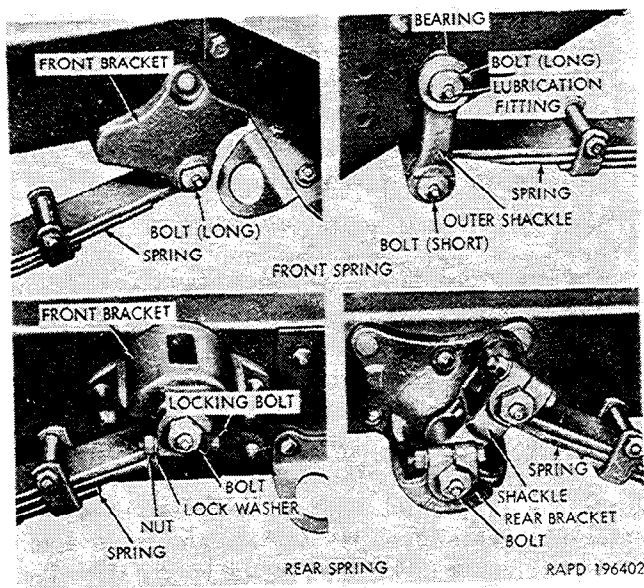
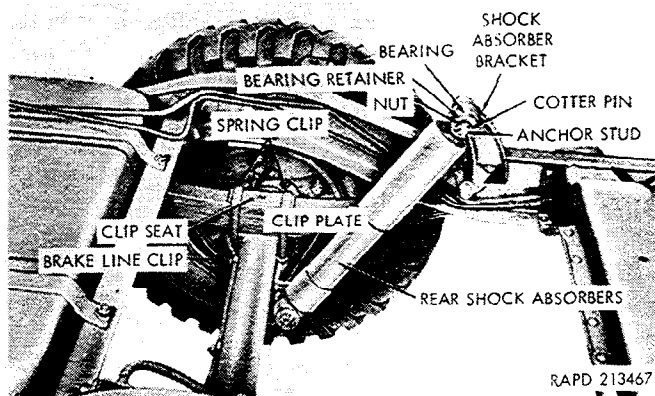

Figure 2-179. Spring bolts and shackles.
Figure 2-180. Rear spring and shock absorber.
(3) Place a jack under the frame side rail just back of the front spring shackle, and raise the frame enough to relieve the load on the spring.
(4) Remove the cotter pin and slotted nut from the spring bolt at the front bracket.
(5) Remove the lubrication fitting from the front spring bolt (fig. 2-179). Remove bolt with drift and hammer.
(6) Remove the bolt that secures the rear end of the spring to the shackles (fig. 2-179 (4) and (5) above).
(7) Support the spring clip (U bolt) plate with blocking from the underside (left side only) and remove the two spring clips (U bolts) and the axle bumper. Remove the spring.
(8) If the spring shackles or the shackle bolt require replacement, remove the shackle bolt ((4) and (5) above) and remove the shackles.
(1) Apply a film of lubricant to all spring bolts to facilitate installation.
(2) If the shackles were removed (a (8) above), position the outer shackle (fig. 2-179) over the bearing in the frame side rail with the offset down and toward the frame. Install a long shackle bolt through the shackle and the frame, with the flat side of the bolt head alined with the locking boss on the shackle. Install the inner shackle on the shackle bolt with the offset down and facing the outer shackle. Install a triple slotted nut on the bolt and tighten fingertight.
(3) Position the spring on the axle with the center bolt head in the recess in the axle housing and the front end in the front bracket (fig. 2-179). Aline the bolt opening in the spring and bracket and install a long spring bolt, with the flat side of the bolt head alined with the locking boss on the bracket. Install a triple slotted nut on the bolt and tighten fingertight.
(4) Aline the rear end of the spring between the inner and outer shackles, and install a short bolt with the flat side of the bolt head alined with the locking boss on the outer shackle. Install a triple-slotted nut on the bolt.
(5) Tighten the nuts on the spring bolt in the front bracket to 40-50 foot-pounds torque. Install a cotter pin.
(6) Tighten the nuts on the shackle bolts sufficiently to overcome end play when the spring is checked with a pry bar.
(3) Place a jack under the frame side rail just ahead of the front bracket of the spring to be removed and raise the frame enough to relieve the load on the spring.
(4) Remove the nuts, lockwashers, and locking bolts that secure the spring bolts in the front bracket and the shackle (fig. 2-179).
(5) Remove the lubrication fittings from the two spring bolts. Unscrew and remove the two bolts.
(6) Support the spring clip plate (fig. 2-180) from the underside and remove the two spring clips and the spring clip seat. Remove the spring.
(7) If the shackle (fig. 2-179) requires replacement, remove the bolt ((4) and (5) above) and remove the shackle.
(1) If the shackle was removed (a (7) above), position the shackle in the rear bracket (fig. 2-179). Install the spring bolt through the bracket and shackle, and tighten the bolt sufficiently to permit installation of the locking bolt. Install a locking bolt in the bracket, and a lockwasher and nut on the bolt.
(2) Position the spring on the axle with the center bolt head in the recess in the axle housing. Install the clip seat (fig. 2-180) over the spring and install the two spring clips (U bolt) over the spring clip (U bolt) seat, and through the holes in the clip plate, being careful not to damage the brake line.
(3) Aline the front end of the spring with the front bracket (fig. 2-179) and install the bolt. Tighten the bolt and install the locking bolt ((1) above).
(4) Aline the rear end of the spring with the spring shackle and install the bolt and locking bolt ((1) above).
(1) Remove the cotter pin, slotted nut, and bearing retainer that attach each end of the shock absorber to the anchor stud (fig. 2-180).
(2) Remove the shock absorber and the four rubber bearings from the anchor studs.
(3) If either anchor stud requires replacement, remove the cotter pin and slotted nut that secure the stud to the shock absorber bracket or the spring clip plate, and remove the stud and inner bearing retainer.
(1) If the anchor studs and inner retainers were removed (*b* (3) above), install retainers and new studs in the shock absorber bracket and the spring clip plate. Install a triple slotted nut on the stud, tighten, and install a cotter pin for each stud.
(2) Place a bearing in each side of each eye of the shock absorber with the small diameter of each bearing toward the eye. Install the shock absorber (large end up) with the bearings on the anchor studs (fig. 2-180).
(3) Install a bearing retainer and a triple slotted nut on each stud. Tighten the nuts and install a cotter pin for each stud.